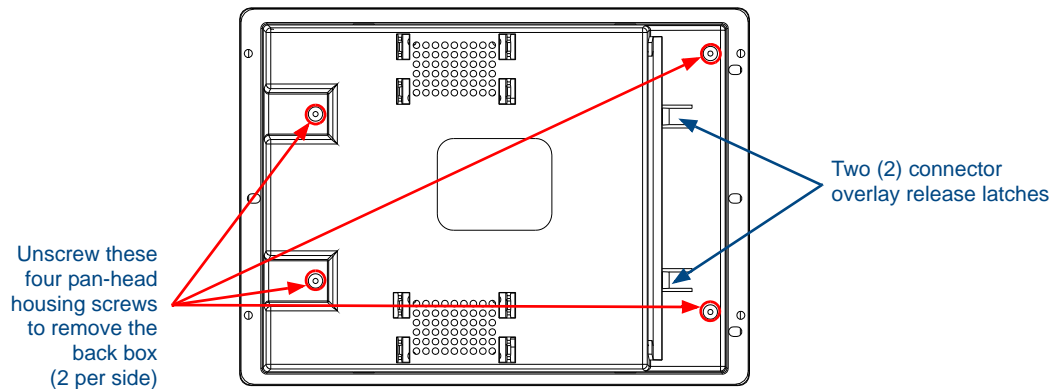

FIG. 3 Location of the attachment screws and connector overlay release latches on an NXD back box
2. Place the LCD facedown on a soft cloth to expose the under-side of the unit (FIG. 3). This step helps prevent scratching of the LCD.
5. Unscrew the outer housing (back box) by using a grounded Phillips-head screwdriver to remove the two sets of pan-head Housing Screws, located on both sides of the housing (FIG. 3).